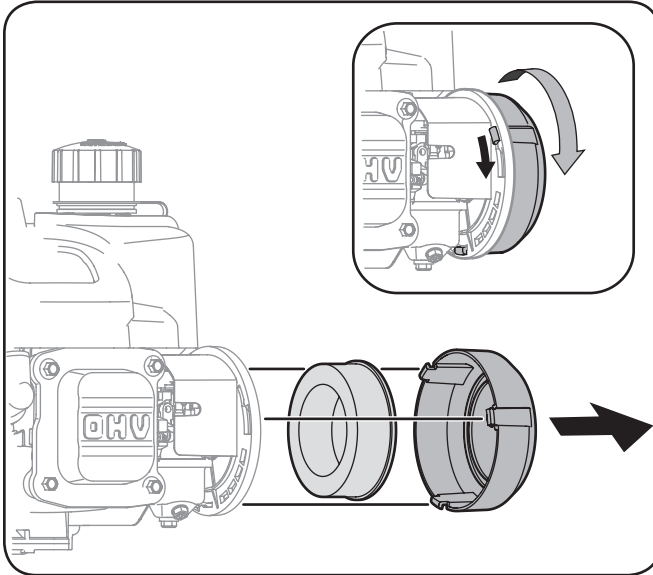

Figure 6-3
1. Remove the air filter cover by turning counter-clockwise then pulling it towards you. See Figure 6-3.